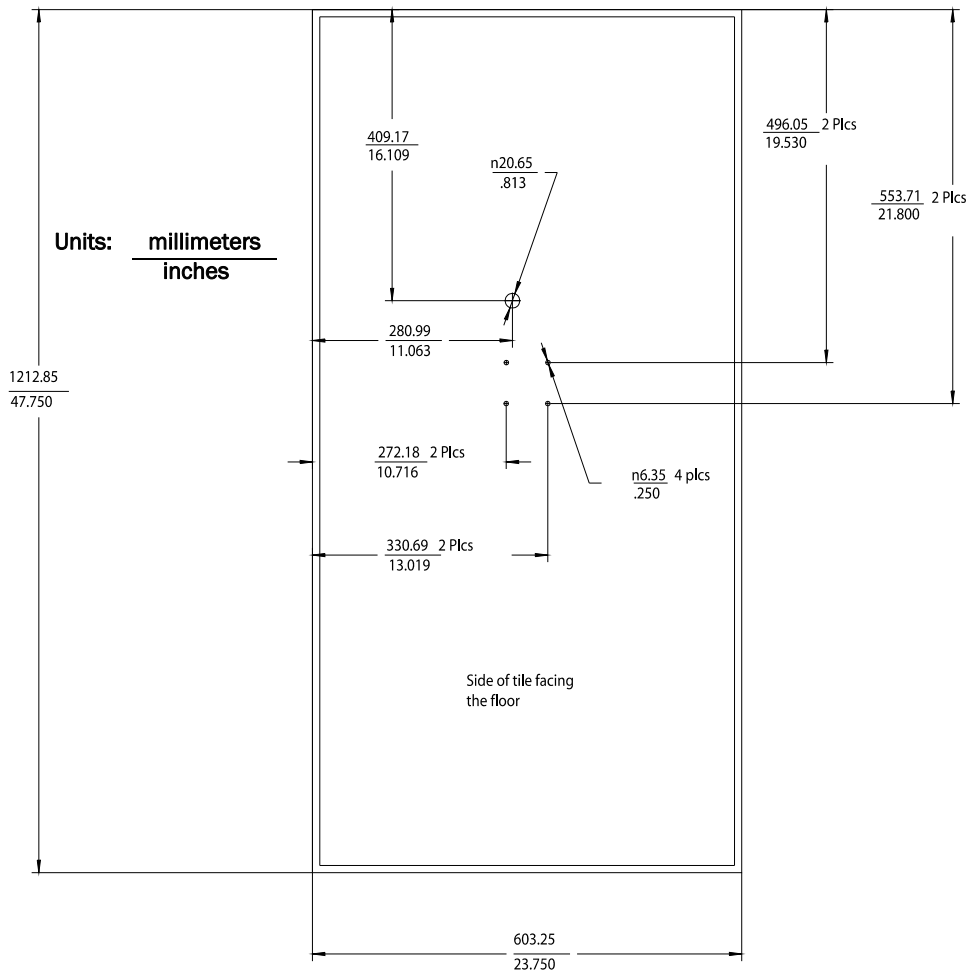

Figure 2-23: RA Below Ceiling Tile Hole Locations and Dimensions
3. Refer to Figure 2-23 for all dimensions and hole locations. Place the mounting rails across the tile (underside of tile). For ceiling tiles that are smaller than standard 2' x 4' size ceiling tile, the mounting rails can be cut down in length at the u-shaped cutouts.